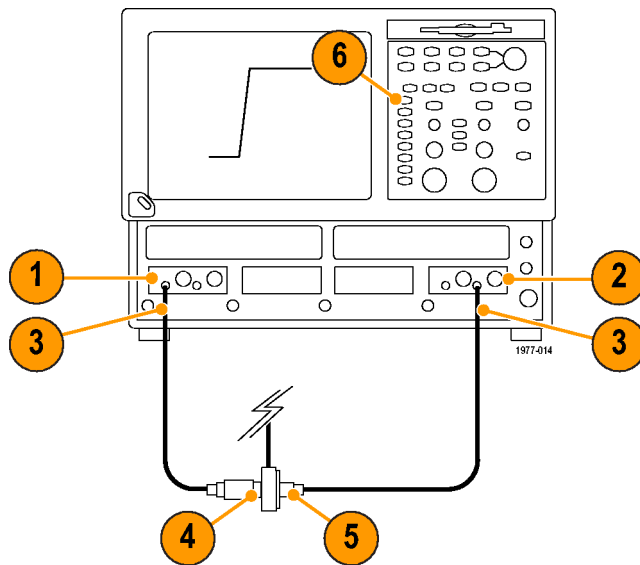

Figure 12: Test system rise time setup
1. Connect the 80E04 sampling head to Channel 1 of the sampling oscilloscope. (See Figure 12.)
11. Use the oscilloscope measurement capability to display rise time. Adjust the oscilloscope horizontal and vertical position controls to display a signal similar to that shown. (See Figure 12 on page 23.)